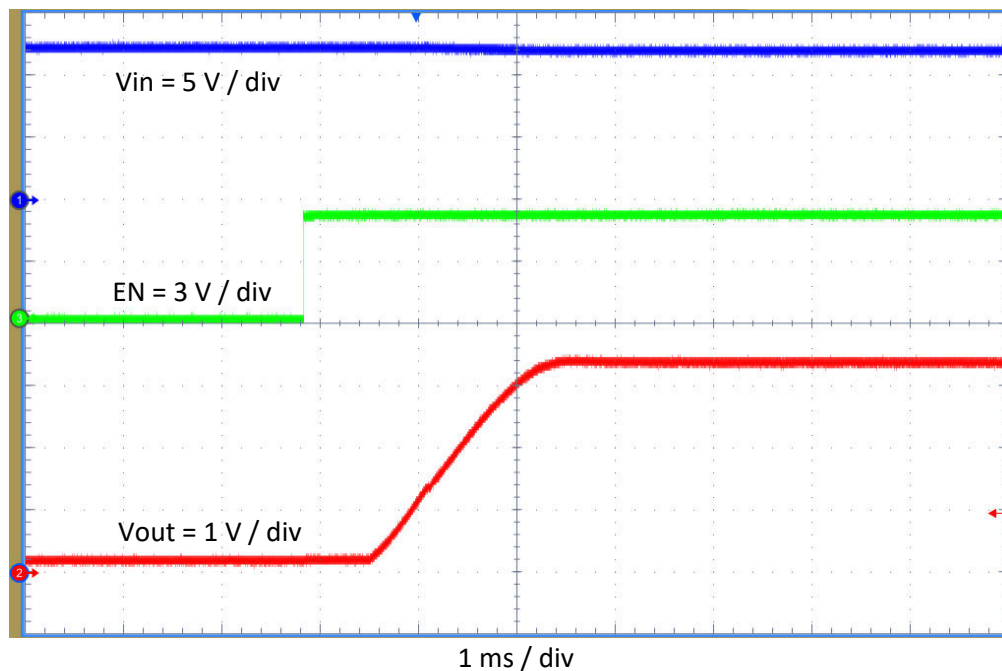

Figure 4-11. TPS563231EVM-032 Start-Up Relative to EN
The TPS563231EVM-032 start-up waveform relative to enable (EN) is shown in Figure 4-11. Load = 2 Ω resistive.